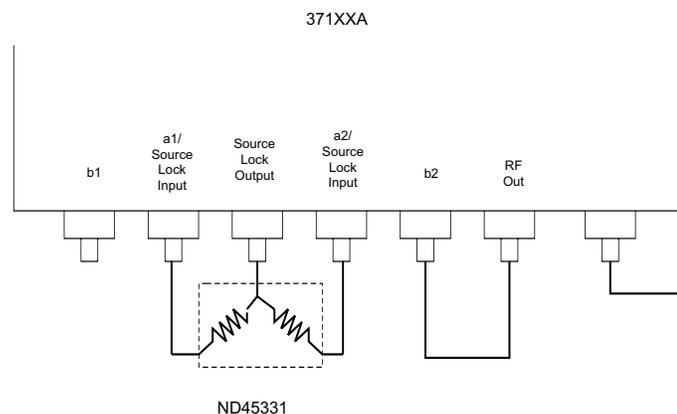

Figure 4-3. Noise Floor/Receiver Dynamic Range Setup
Step 1. Set up the equipment per Figure 4-3.